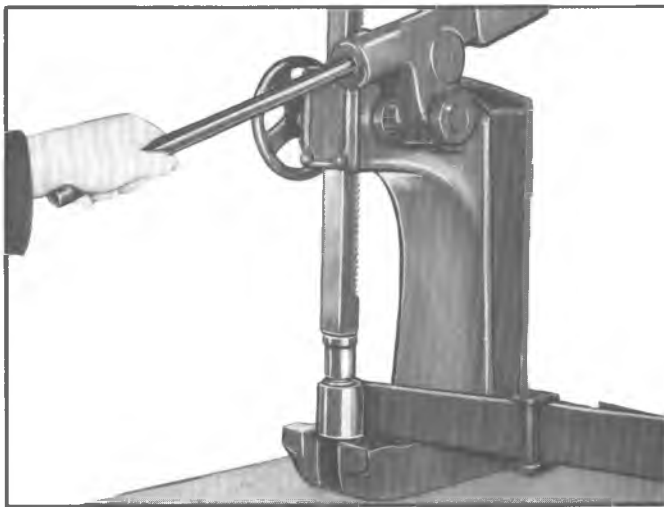

Fig. 16—Pressing Out Bushing
1. Place spring on press and press out bushing using a suitable rod, pipe or tool as shown in figure 16.